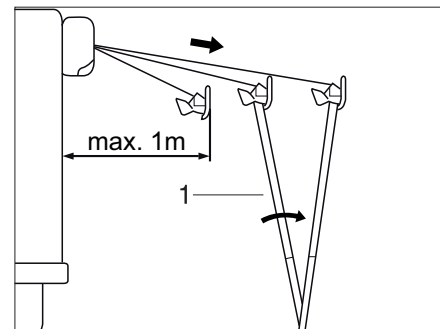

Fig. 36 Putting up the awning
- Fold out the support legs (Fig. 36,1) and set them on the ground.